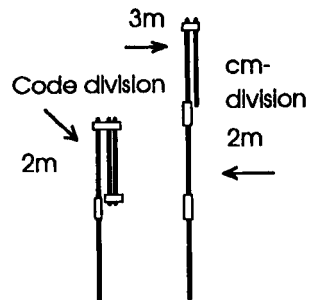

Figure 1
**0m-2m:** Elements 1 and 2 have been folded out (elements 3 and 4 stay folded down behind element 2). See figure 1.
**0m-3m:** Elements 1 to 3 are folded out (element 4 stays folded down behind element 3). See figure 1.
0m-2m: Elements 1 to 3 must be folded out (element 4 covers the divisions of element 3). See figure 1.